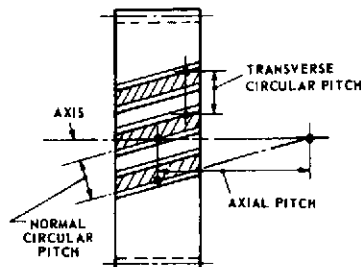

FIGURE 1.10 — NORMAL, TRANSVERSE & AXIAL PITCH
- 1.23 **Normal Circular Pitch** is the circular pitch in the normal plane, and also the length of the arc along the normal helix between helical teeth or threads. (Figure 1.10)
- 1.24 **Axial Pitch** is linear pitch in an axial plane and in a pitch surface. In helical gears and worms, axial pitch has the same value at all diameters. In gearing of other types, axial pitch may be confined to the pitch surface and may be a circular measurement. (Figure 1.10)
- 1.25 **Transverse Circular Pitch** is the circular pitch in the transverse plane. (Figure 1.10)